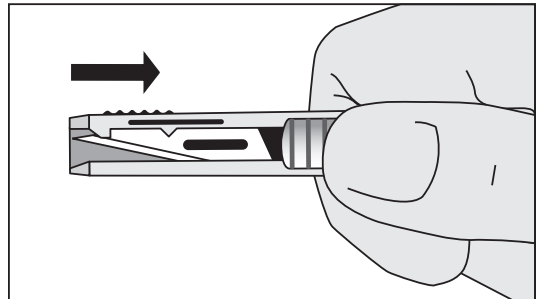

Figure 28
- Activate safety feature of safety scalpel (where provided) once cutaneous puncture site is enlarged, to minimize the risk of cutting the guidewire (refer to Figure 28).